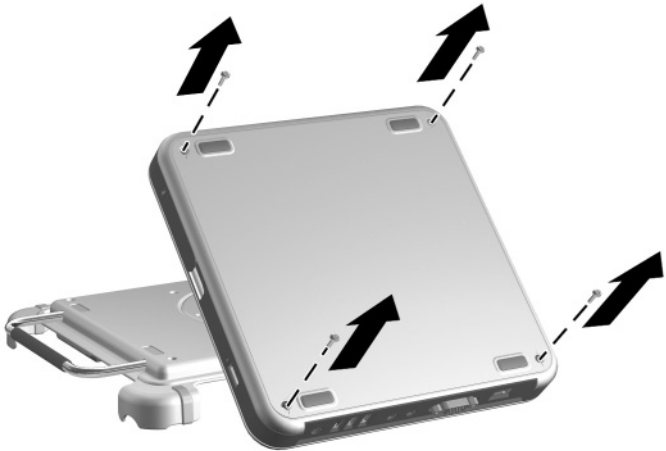

Figure 5-30. Removing the Top Case Screws
2. Remove the four TM2.5 × 7.0 screws that secure the top case to the bottom case (Figure 5-30).